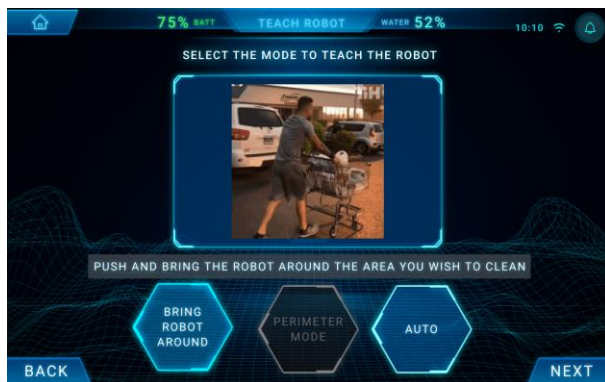

Fig 1
5. If the ‘ROBOT NOT READY’ screen (Fig 3) is shown click continue and try again (Fig 1).